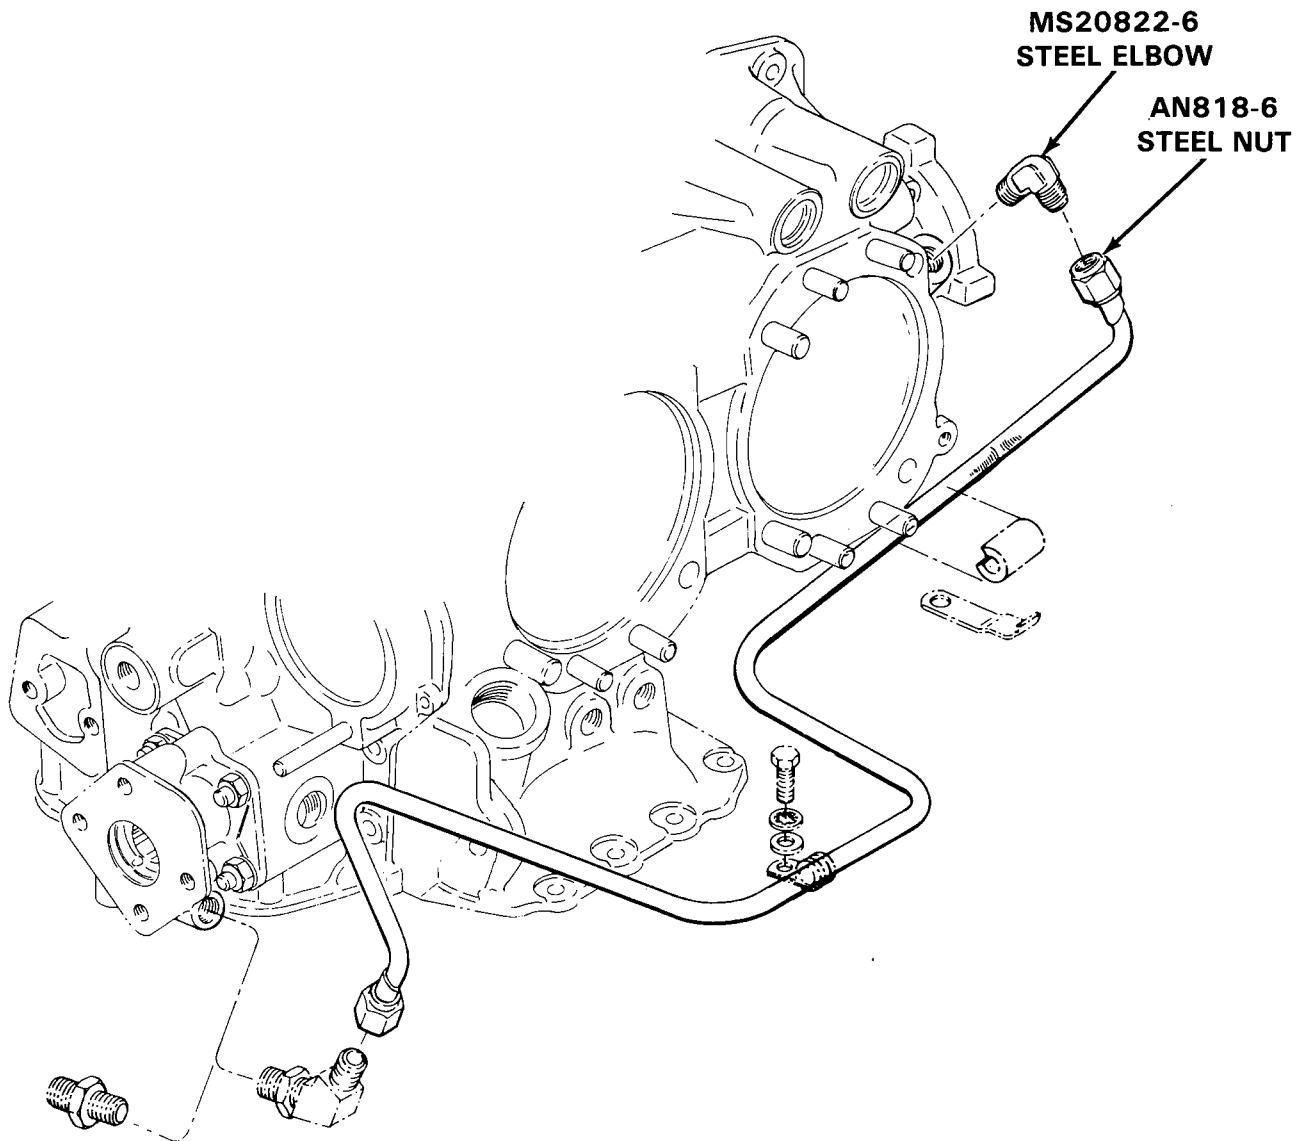

Figure 3. Propeller Governor Oil Line Nut and Elbow
ways to identify which nut you have; (1) aluminum nuts are anodized making them blue in color or (2) the use of a magnet to determine aluminum from steel. Also, the aluminum elbow at the front of the crankcase has been replaced by a steel elbow P/N MS20822-6. See Figure 3 and Parts Data.